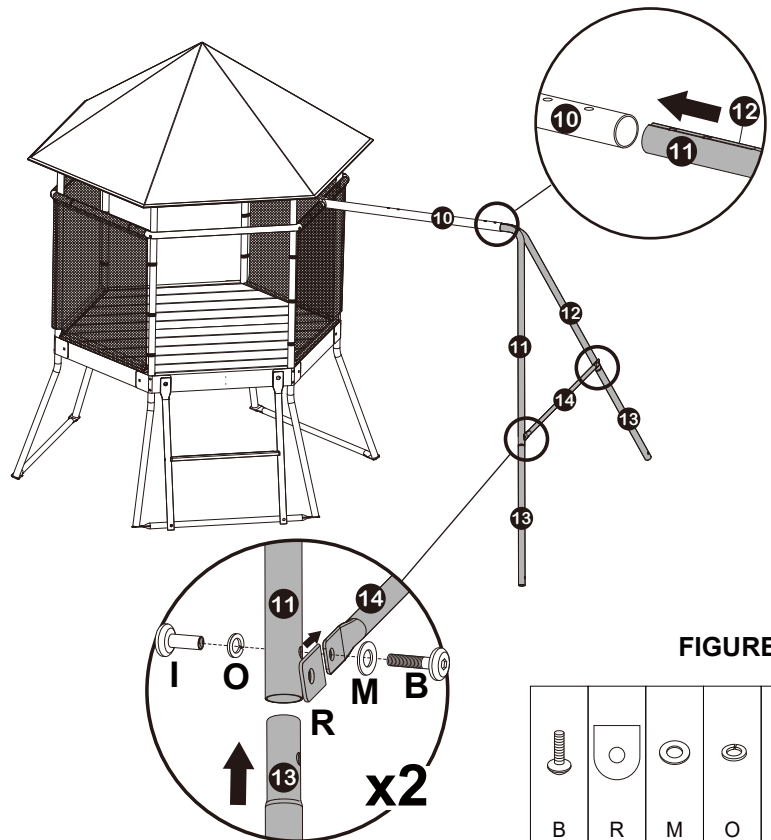

FIGURE 17
- Insert Upper Leg (11) and (12) into Beam (10).
- Insert Lower Legs (13) into Upper Leg (11) and (12) and secure together with Rail (14) as shown in Figure 17.